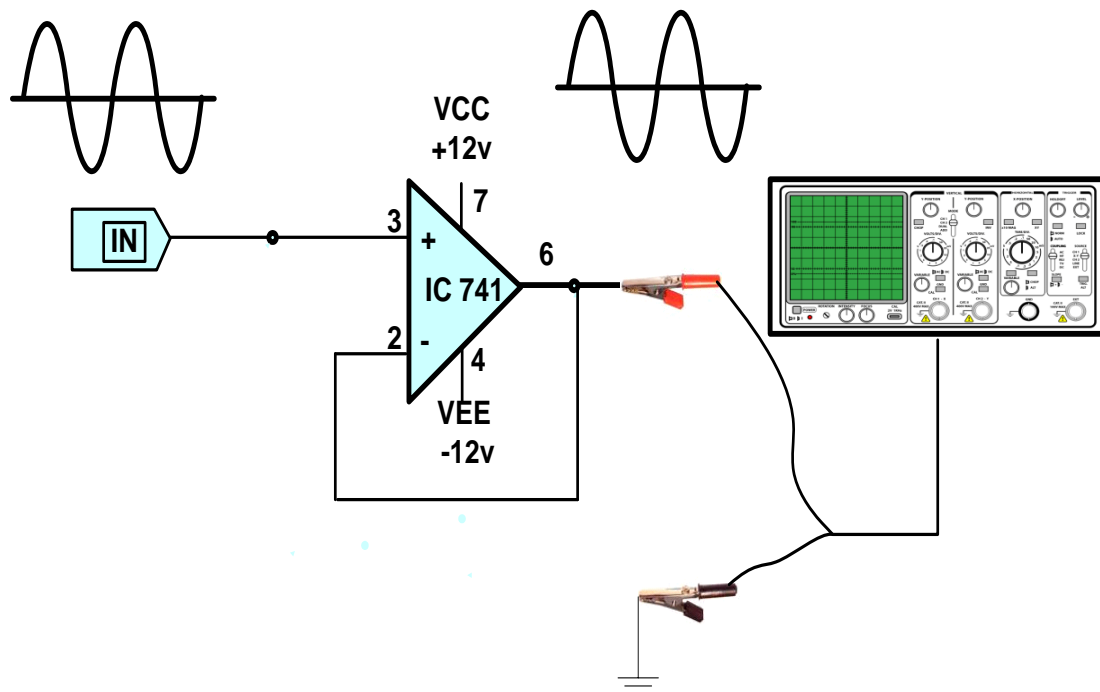

Figure 5.1
1. Connect the circuit as shown in figure 5.1 and switch on power supplies.